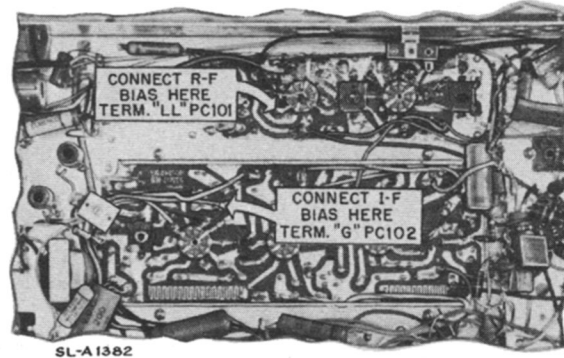

Fig. 166—R-F — I-F Bias Connections
3. Connect one lead from the bias source to the R-F AGC buss, and one lead to the picture I-F AGC buss, and one lead to the junction of R-217/R-218, for the bandpass amplifier bias, see figures 166 and 174.